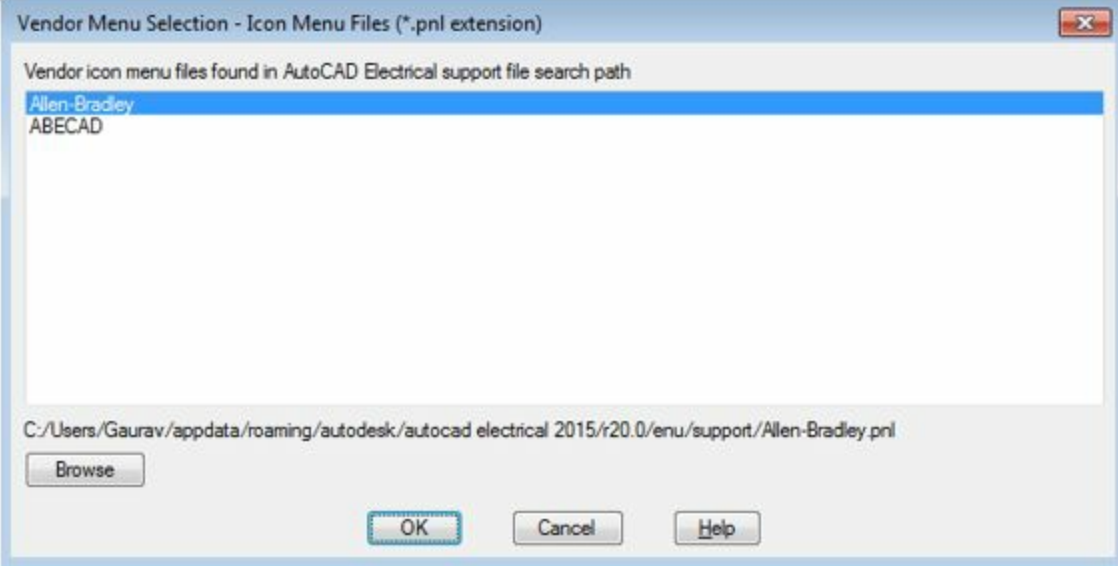

Figure-15. Vendor Menu Selection dialog box
- Click on the **Manufacturer Menu** tool from the **Insert Component Footprints** drop-down. The **Vendor Menu Selection** dialog box will be displayed (for the first time); refer to Figure-15.